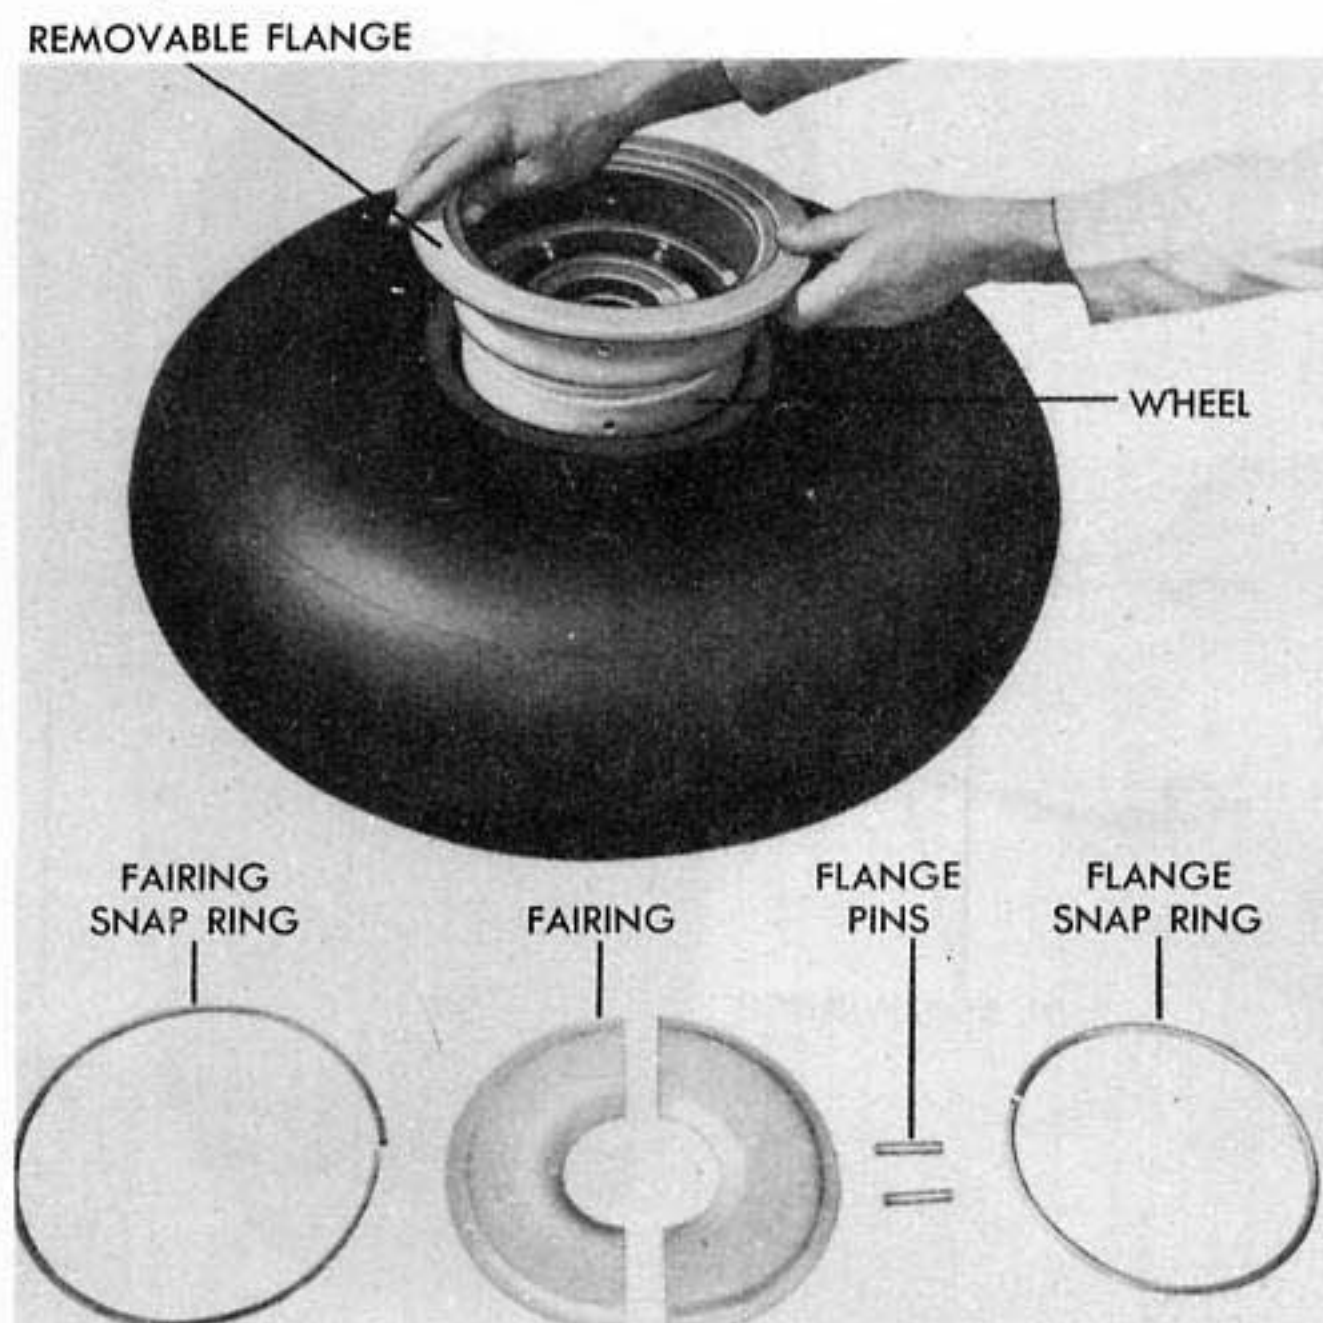

Figure 82 - REMOVING NOSE WHEEL TIRE
(7) REMOVAL OF NOSE ALIGHTING GEAR TIRE. (See figure 82.)
(1) INSTALLATION OF NOSE ALIGHTING GEAR TIRE. (See figure 82.)